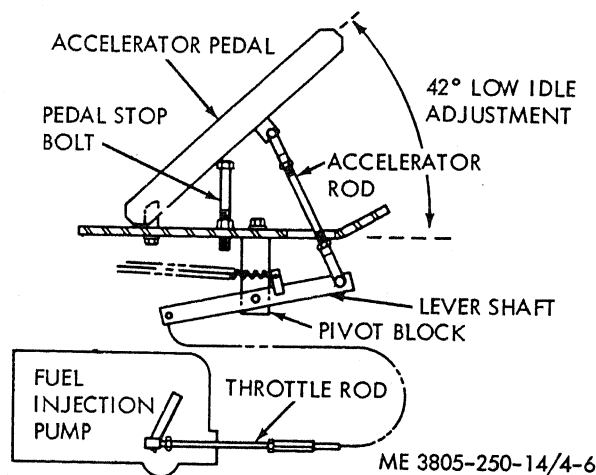
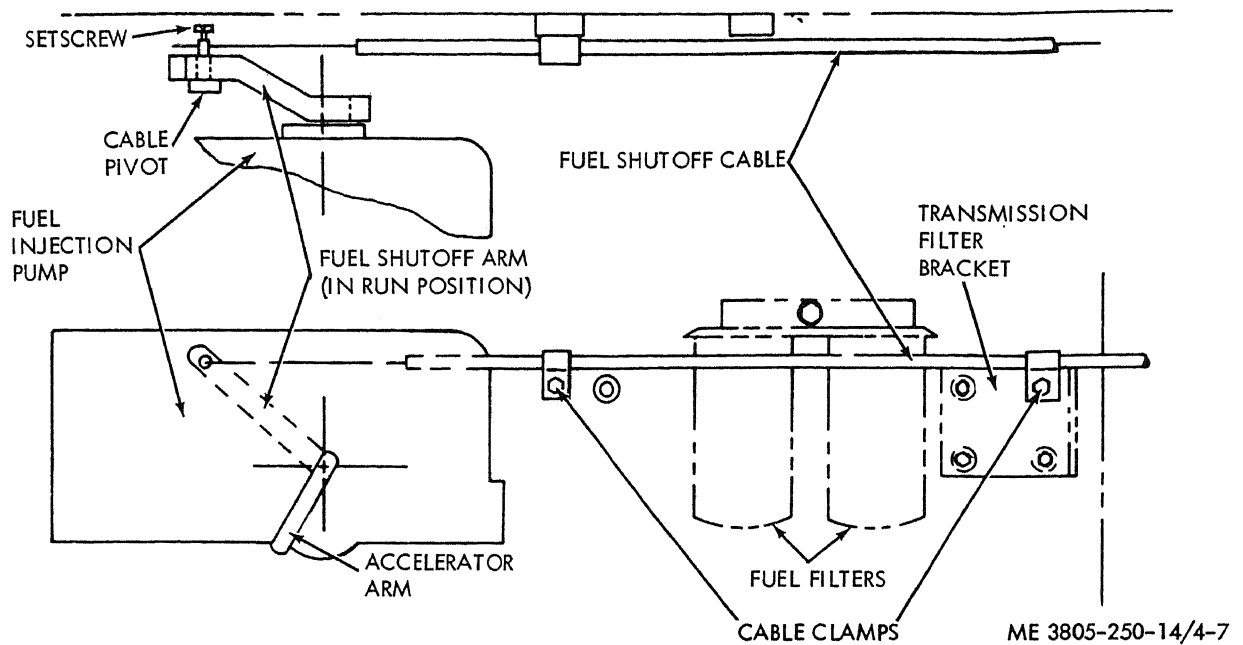

Figure 4-6. Throttle adjustment.
Figure 4-7. Fuel shutoff control adjustment.
d. *Throttle Adjustment* (fig. 4-6).
(1) Stop the lever shaft against the lever pivot block.
(2) Adjust the accelerator rod until the angle formed by the accelerator pedal and the floor plate is 42 degrees. Tighten the jam nuts on the accelerator rod.
(3) Use a tachometer capable of reading 2500 rpm. to monitor engine speed. Start the engine.
(4) Adjust the turnbuckle on the throttle rod to obtain a tachometer indication of 725 to 775 rpm. Tighten the jam nuts on the throttle rod.
(5) Adjust the pedal stop bolt to obtain an indication of 2315 to 2365 rpm when the accelerator pedal contacts the stop bolt. Tighten the jam nut.
(6) Shut down the engine and remove the tachometer.
e. *Fuel Shutoff Control Adjustment* (fig. 4-7).
(1) Loosen the setscrew on the fuel shutoff arm pivot. The shutoff arm returns to the run position when released.
(2) Push the fuel shutoff handle in until it seats against the mounting ferrule. If necessary, loosen the cable mounting clamps to position the cable in the shutoff arm pivot.
(3) Tighten the cable pivot setscrew and the cable clamps, if loosened.
(4) Start the engine and pull the full shutoff handle all the way out. The engine should stop.